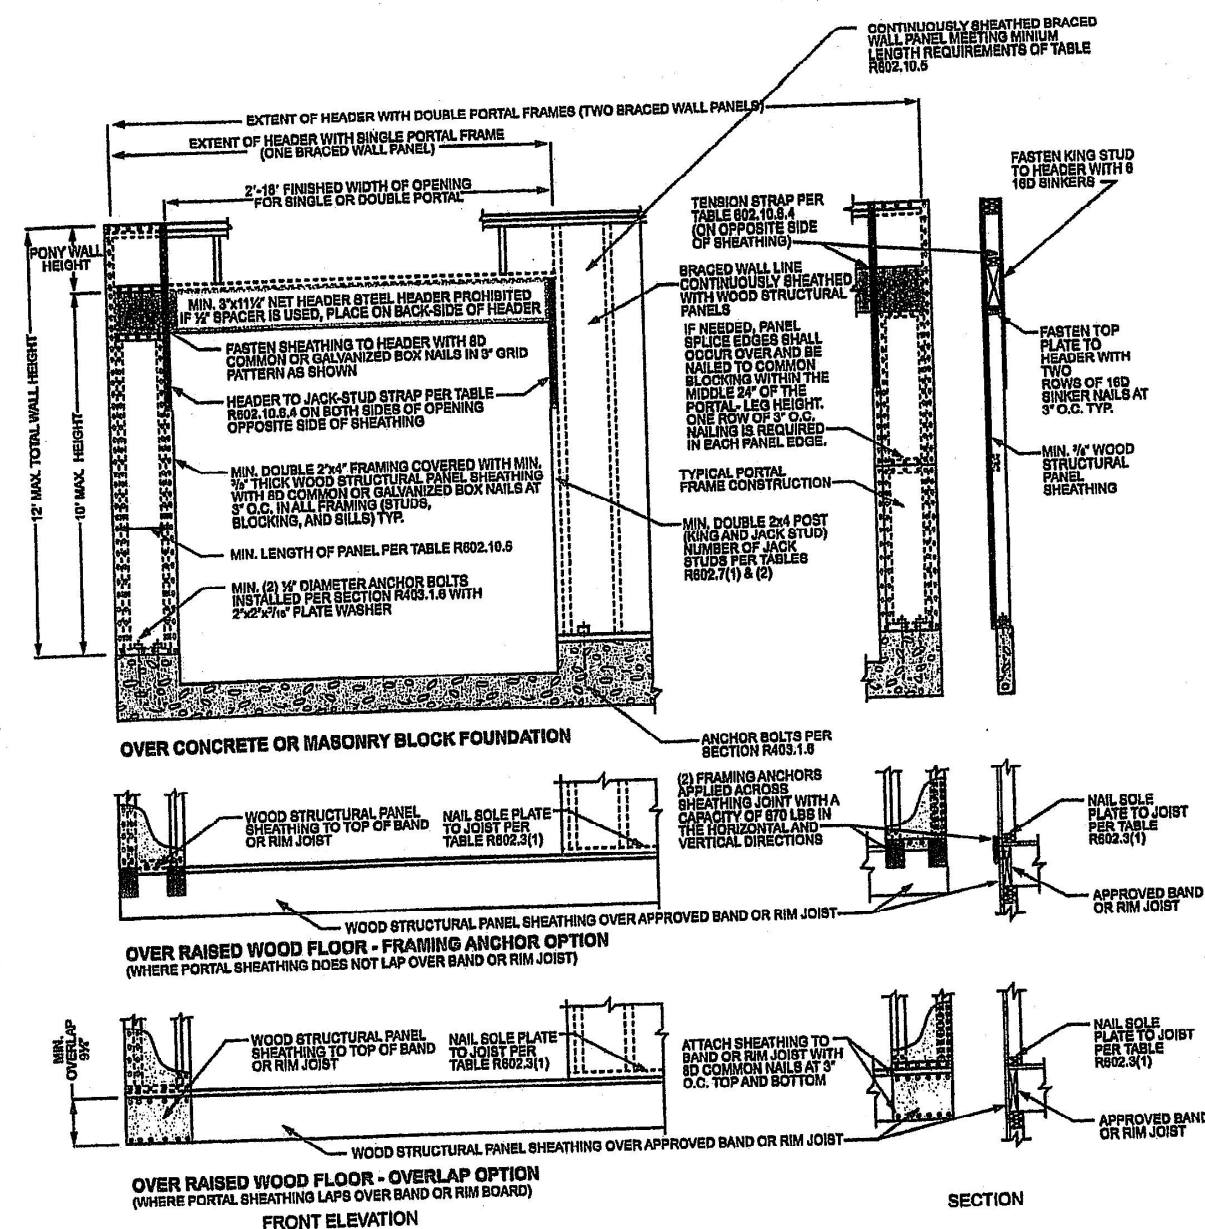

FIGURE R602.10.6.4
c. Maximum header height for PFH is 10 feet in accordance with Figure R602.10.6.2, but wall height shall be permitted to be increased to 12 feet with pony wall.
d. Maximum header height for PFG is 10 feet in accordance with Figure R602.10.6.4, but wall height shall be permitted to be increased to 12 feet with pony wall.
e. Maximum header height for CS-PF is 10 feet in accordance with Figure R602.10.6.4, but wall height shall be permitted to be increased to 12 feet with pony wall.